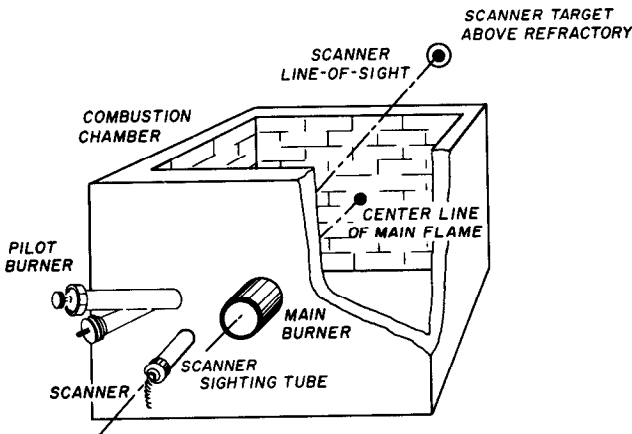

Figure 5
1. Locate scanner sight tube point of entry below and close to the burner ignition assembly (Fig. 5) and drill a 7/8" hole through the boiler or furnace wall. The sight tube, a 4"-8" length of 1/2" black iron pipe, will be fixed to the hole when the proper position has been established.